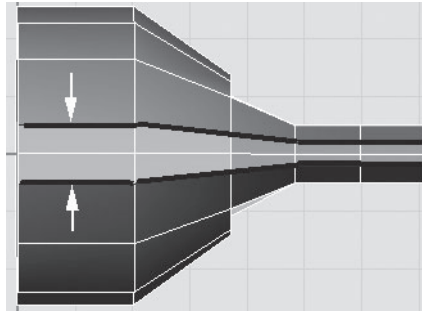

FIGURE 3.71 The sack's top outer edges moved inward.
51. In Top view, select the two outer edges of the sack's top and move them a bit inward to narrow the top of the sack, as shown in Figure 3.71.